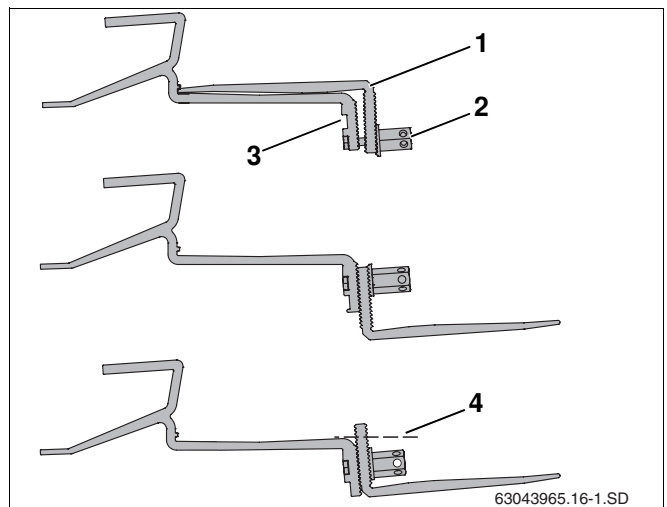

Fig. 17 Repositioning lower part of roof hook
- Loosen the long hexagon nut (Fig. 17, **Item 2**).
- Insert bolt into upper hole (Fig. 17, **Item 3**).
- Loosely fasten lower part of roof hook (Fig. 17, **Item 1**). Do not tighten the connection yet.